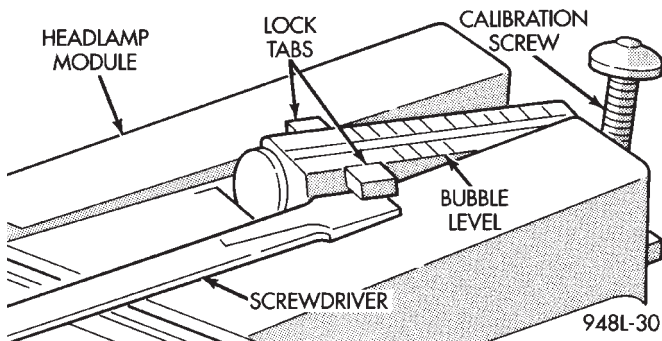

Fig. 1 Headlamp Bubble Level
- (1) Release hood latch and open hood.
- (2) Remove radiator closure panel sight shield as necessary to gain access to bubble level.
- (3) Using a small flat blade screw driver, pry upward on the retaining tabs at the front of the level (Fig. 1).
- (4) Push level rearward until retaining tabs disengage from the channels on the sides of the level.
- (5) Separate level from vehicle.